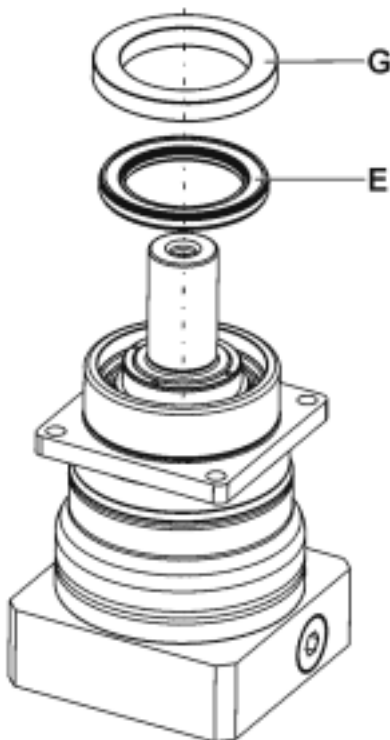

Fig. 8.6
- Make an assembly unit (G) that corresponds to Fig. 8.6.